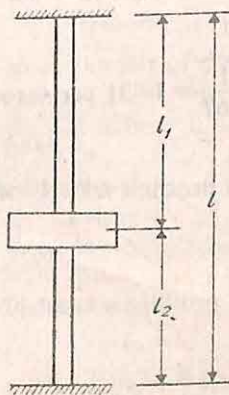

Fig. 72
6. A flywheel is mounted on a vertical shaft as shown in Fig. 72, the ends of the shaft being fixed. The shaft is 5 cm diameter, the length  $l_1$  is 90 cm and the length  $l_2$  is 60 cm. The flywheel weighs 500 kg and its radius of gyration is 50 cm. Find the natural frequencies of the longitudinal, the transverse and the torsional vibrations of the system.  $E = 2 \times 10^6 \text{ kg/cm}^2$ ,  $C = 0.8 \times 10^6 \text{ kg/cm}^2$ .